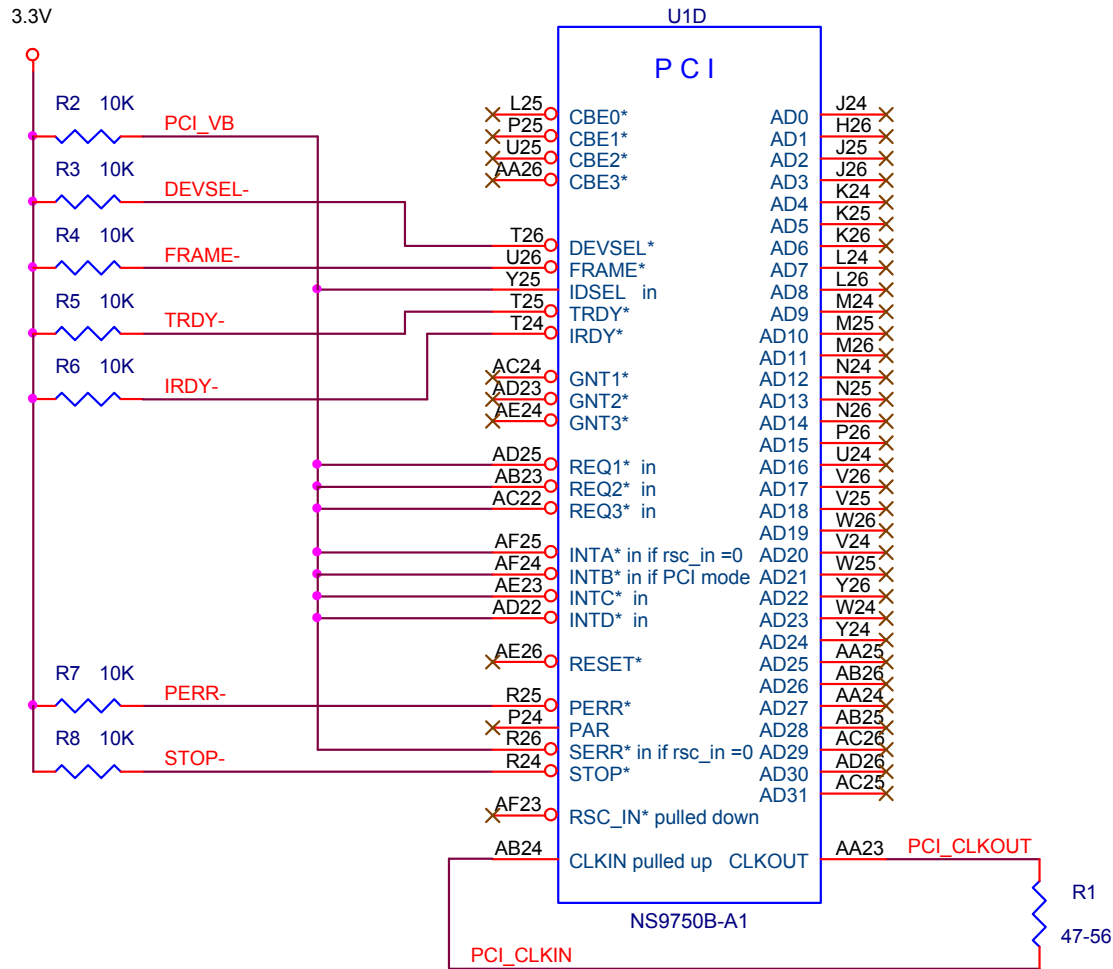

Figure 5: NS9750B-A1 unused PCI termination
- 1 Add external pulldown resistor or drive with the NS9750B-A1 *only* if the PCI interface is not being used. Figure 5, "NS9750B-A1 unused PCI termination," shows which signals can be driven by the NS9750B-A1 and which signals require pullups or pulldowns.
Figure 5 shows how to terminate an unused PCI.